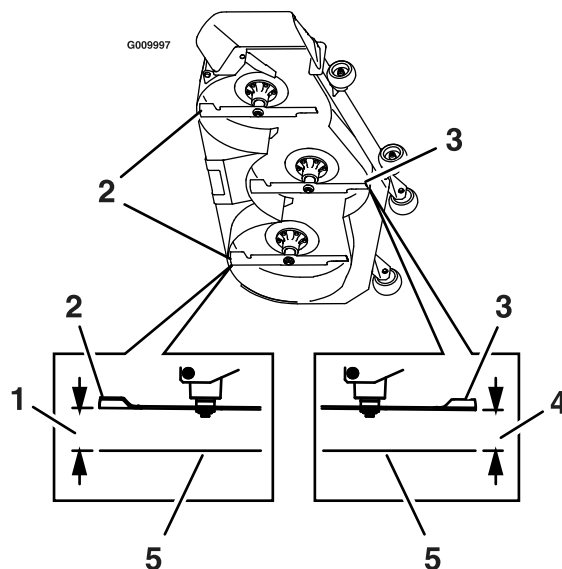

Figure 81
8. Measure from the level surface to the front tip of the center blade (Figure 81).